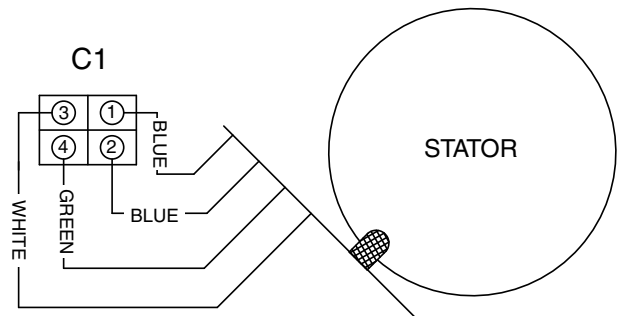
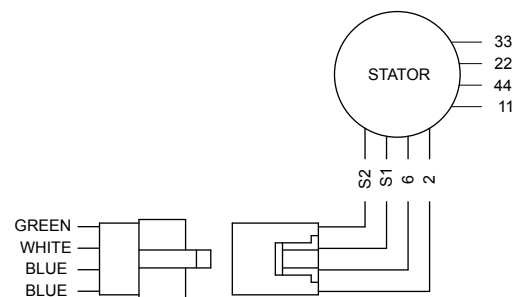

Figure 23. CorePower C1 Test Points
Figure 24. PowerPact Stator Test Points
- Connect meter test leads across the two Blue banded Wires coming from the Stator. Refer to Figure 23 for CorePower or Figure 24 for PowerPact.
- Connect meter test leads across the Green and White banded Wires. Refer to Figure 23 for CorePower or Figure 24 for PowerPact.